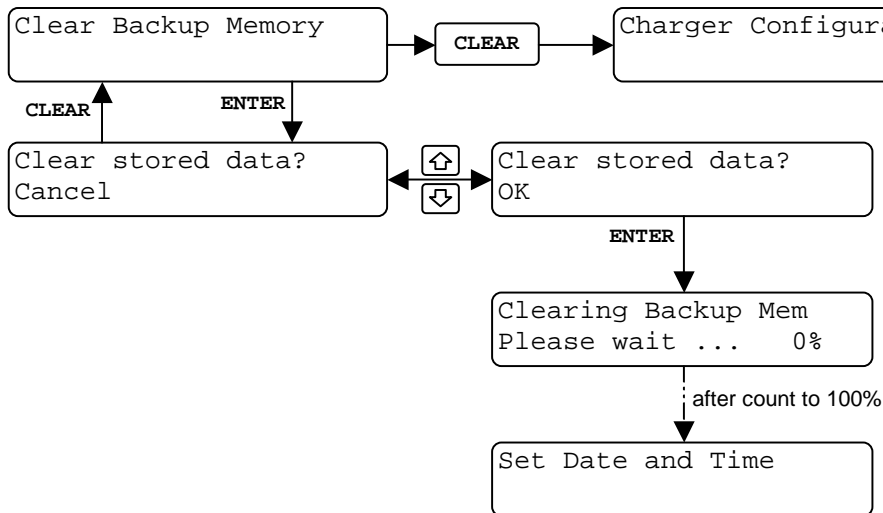

Figure 5- 11 Clear Backup Memory Menu
5.9.1 Figure 5- 10 Charger Configuration OptionsClear Backup Memory
The clear battery backed RAM Data screens (See Figure 5- 11) allow the user to clear the battery-backed charger memory. This memory contains the charge event log, the fault event log, and the charger configuration parameters.
The External Light Configuration Menu (See Figure 5- 12) allows the user two modes of operation: